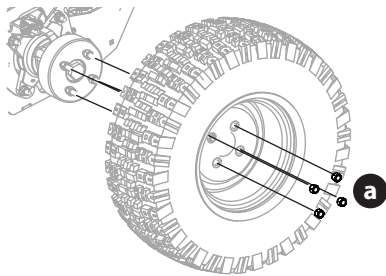

Fig. 47
1. Remove the four lug nuts (a) to remove the tire (Fig. 47).
2. Reinstall the tire using the four lug nuts (Fig. 47). Torque the lug nuts (a) to 65-70 ft-lbs (88-95 N-m).